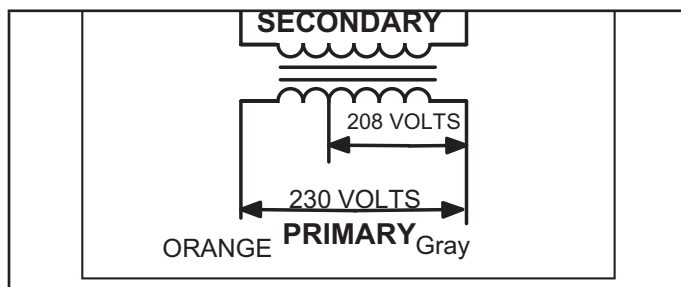

FIGURE 4
All LHX units use a single line voltage to 24VAC transformer mounted on the hinged control panel. Transformer supplies power to control circuits in the unit. The transformer is rated at 70VA and is protected by a 3.5 amp circuit (CB8). The 208/230 voltage transformers use two primary voltage taps as shown in FIGURE 4, while the 460 (G) voltage transformer use a single primary voltage tap. T43 is used for units with hot gas reheat for additional 24VAC.